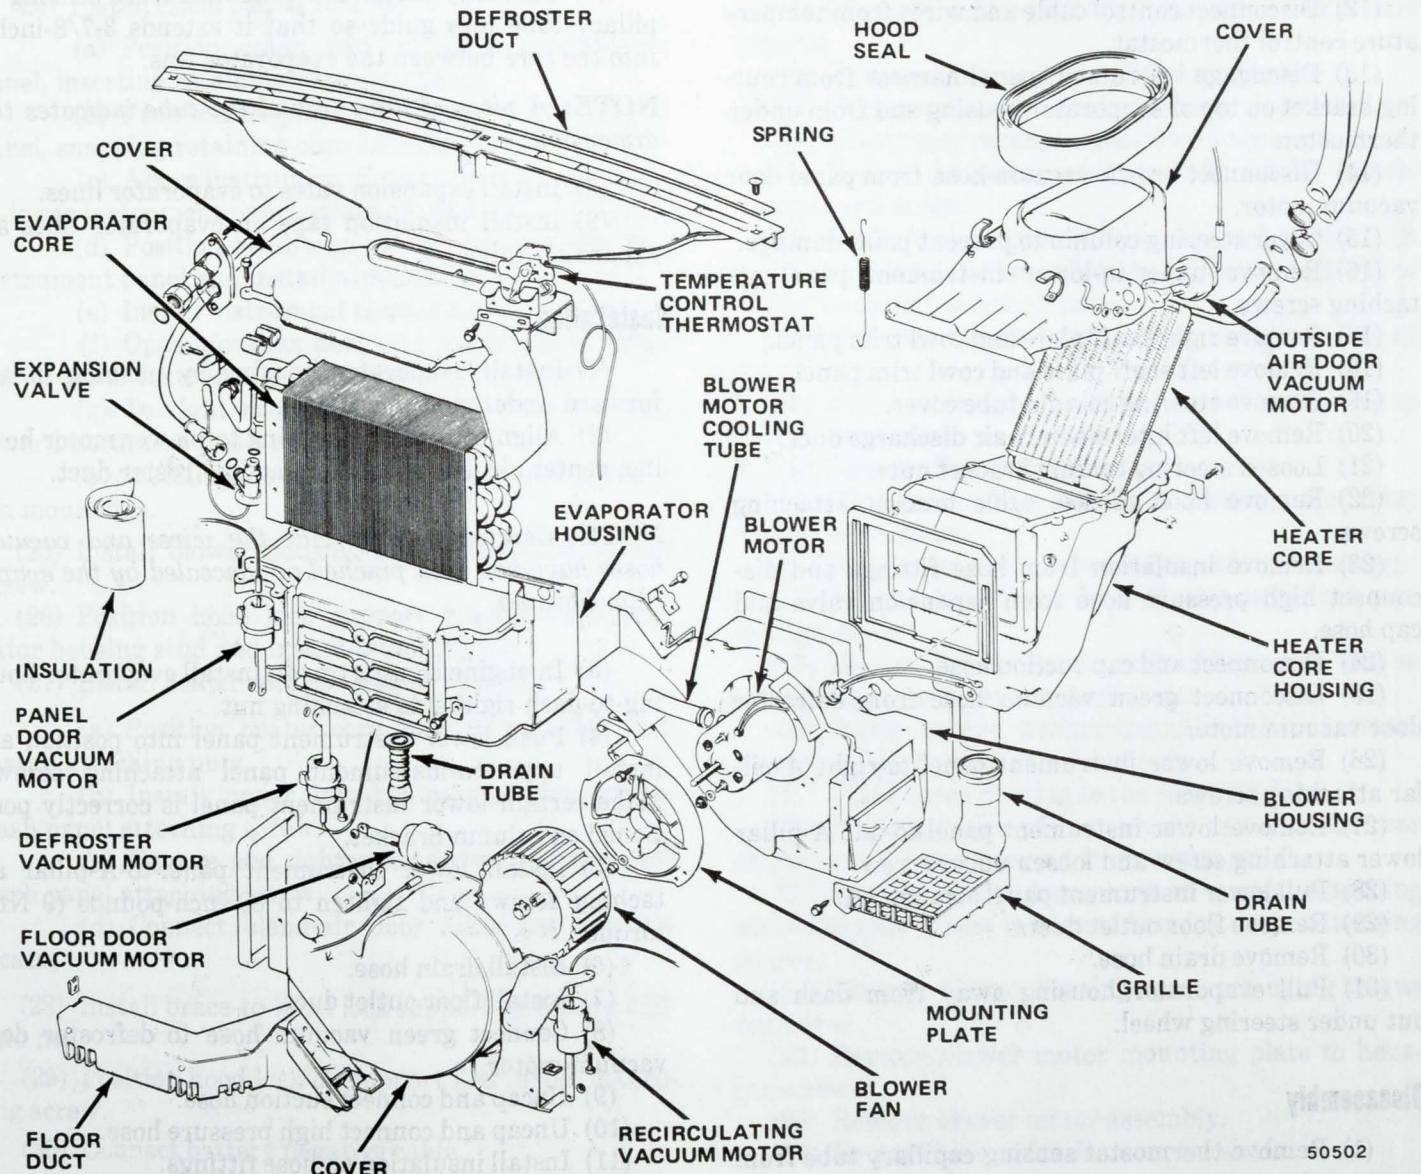

Fig. 3E-31 Evaporator Housing, Core, Blower Motor Housing, and Heater Core Housing Components
- (1) Discharge system.
- (2) Disconnect battery negative cable.
- (3) Remove hood lock-to-support attaching screws.
- (4) Remove brace-to-hood lock support attaching nut and bolt.
- (5) Remove heater core housing (fig. 3E-31) as follows: